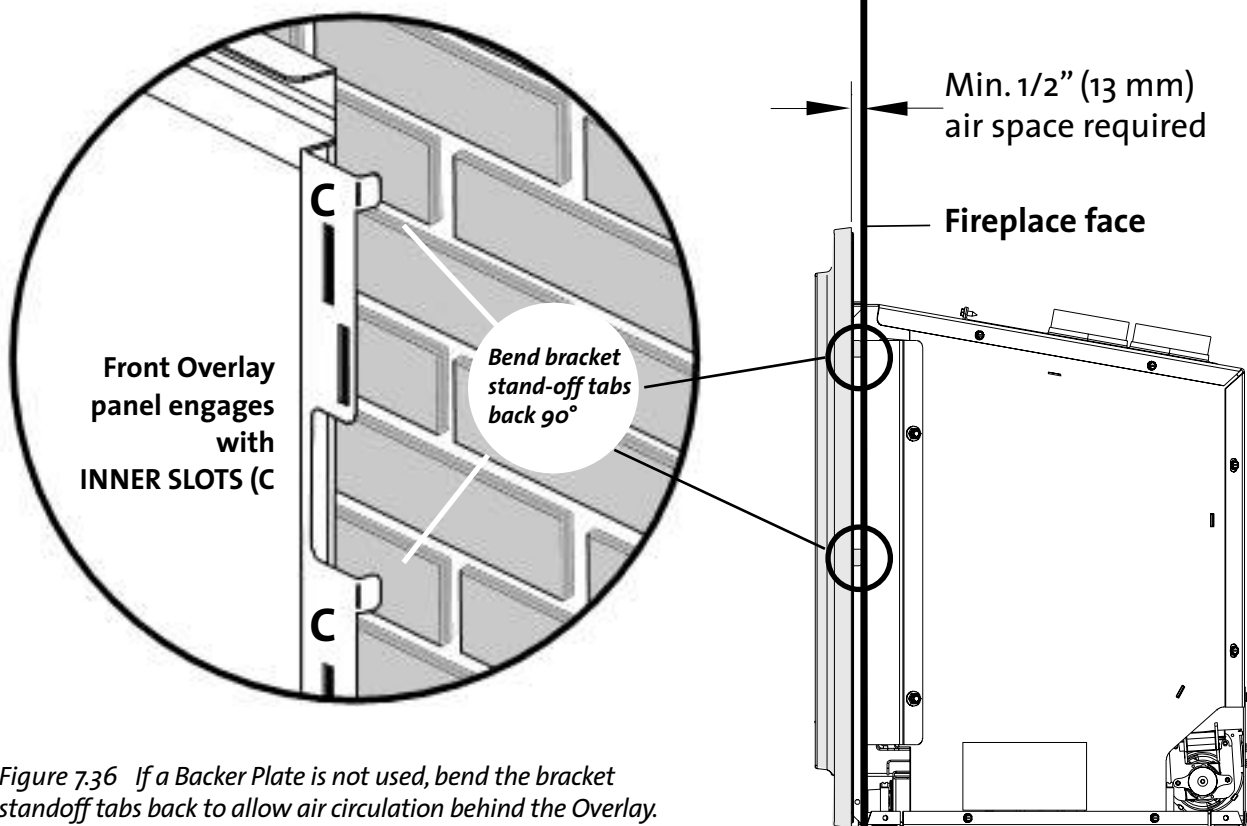

Figure 7.36 If a Backer Plate is not used, bend the bracket standoff tabs back to allow air circulation behind the Overlay. See detail.
The Overlay hanger brackets engage with the *inner slots (C)* through the *front* of the firebox mounting brackets. See fig. 7.36.
WARNING! See Fig. 7.36.